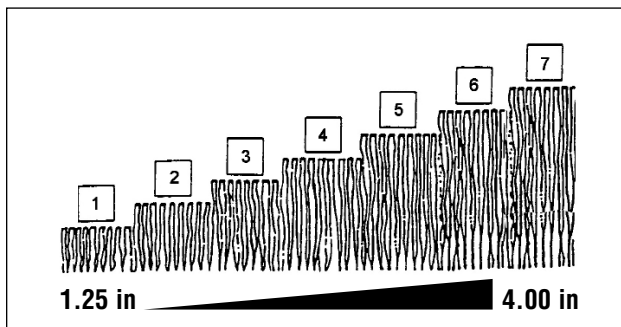

Figure 8: Cutting height settings (approximate)
2. Set all wheels at the same cutting height. The highest cutting position is Notch 7 (**Figure 8**). The lowest cutting position is Notch 1.